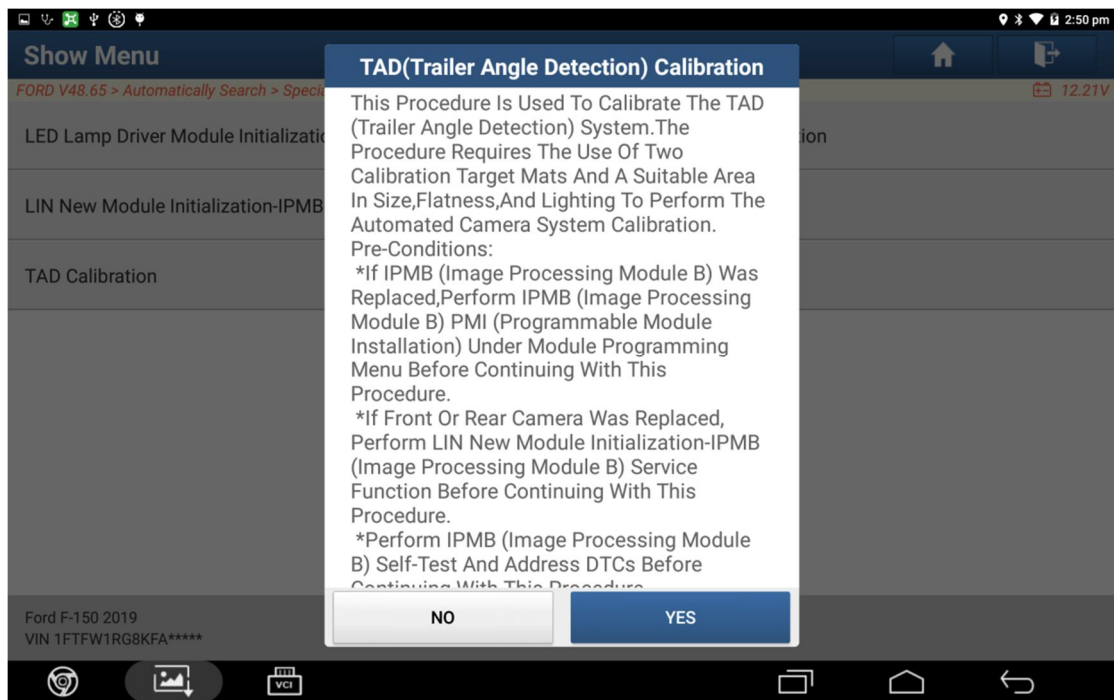

Figure 8
7. Prompt to perform the function, prerequisites for the vehicle (Figure 8).